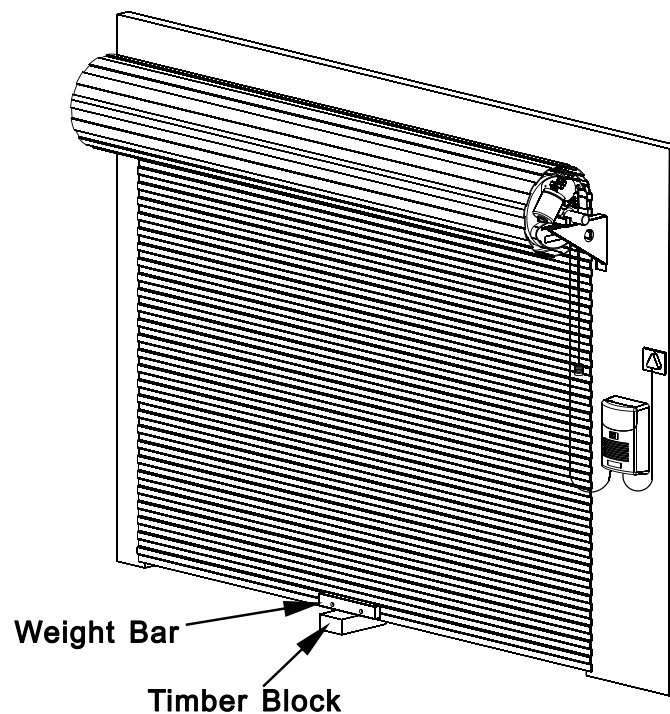

Fig 14
- 13.1 With the garage door in the fully open position, place a length of timber measuring 100mm x 50mm on the floor directly under the middle of the garage door. (Fig.14)